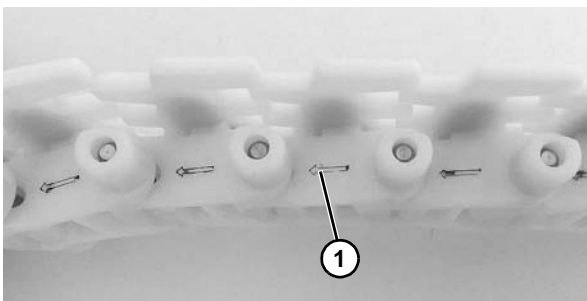

Figure 53
1. Insert the chain (**Figure 52, item 1**) into the underside of the drive unit (**Figure 52, item 2**). Make sure the chain will be moving in the correct direction, as indicated by the arrow (**Figure 53, item 1**) located at the side of all chain links.